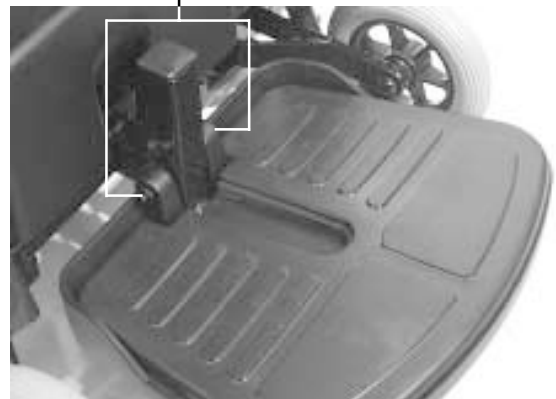

Figure 19. Footrest Height
1. Remove the two 7/16-in. bolts and their nuts from the footrest. See figure 19.